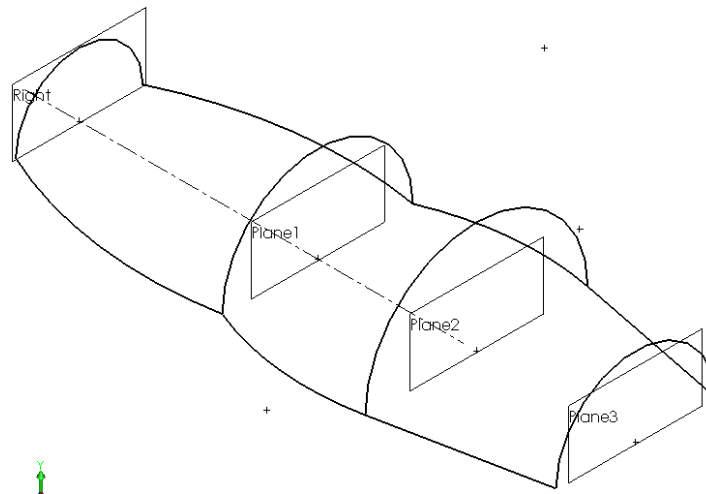

Figure 15-119 Sections and guide curves to create a lofted surface
- a. First, you need to create the base surface. The base surface is created by lofting the open sections along the guide curves, refer to Figures 15-119 and 15-120.
2. Create three planes at an offset distance from the **Right** plane, refer to Figure 15-119.
3. Next you need to create the sections and the guide curves to create a lofted surface as shown in Figure 15-119.